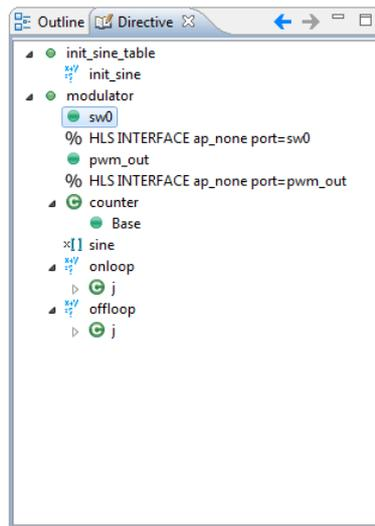

Figure 2.42: Directive tab with applied directives
Step 4. Apply the same directive with the same settings to the *pwm_out* output port and the **Directive** tab with applied directives to selected ports looks as it is shown on the Figure 2.42.